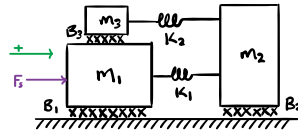

Figure exe.6: Schematic of a mechanical system.
- c. The translational mechanical system of Fig. exe.6, force source, coordinate arrow in green.